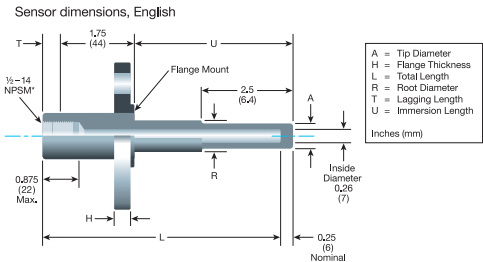

Figure 4.2.2.2.5a – Thermowell Dimensions
- Sensor length See Figure 4.2.2.2.5a
- Overall length (L) includes insertion length (U), extension (E), wrench and thread allowance, lagging nominal allowance (T), thread engagement into connection head, and allowance for spring-loaded style